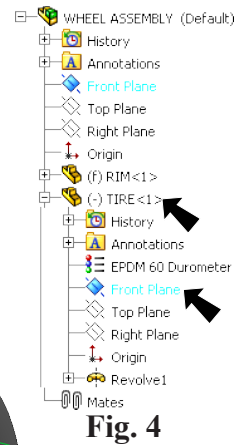
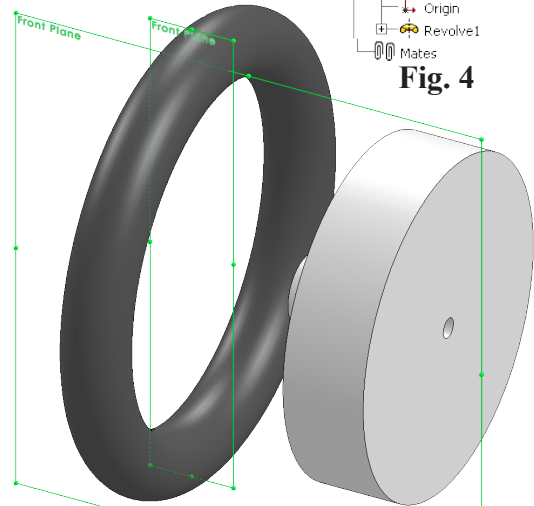

Fig. 4
Fig. 5
Step 2. Expand the flyout Feature Manager design tree (click +) in the top left corner of the graphics area, then expand **Tire** and click **Front Plane** , **Fig. 4** and **Fig. 5**.